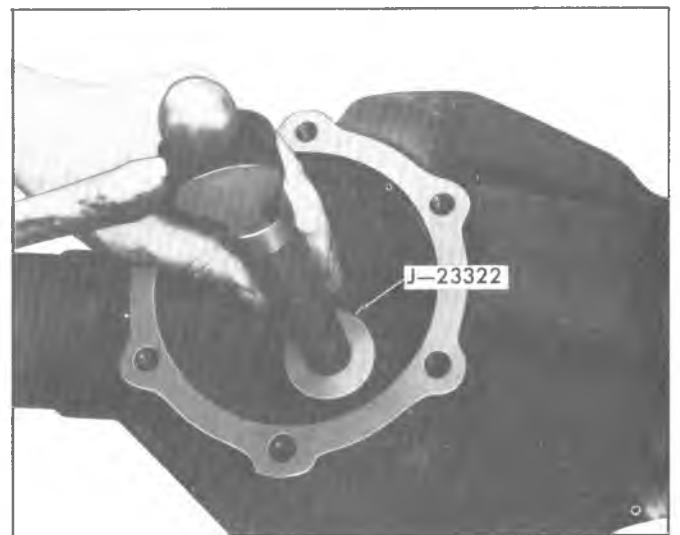

Fig. 14E—Installing Straddle Bearing
4. Install the pinion straddle bearing into the carrier housing, using driver handle J-8092 and installer J-23322, as shown in figure 14E.